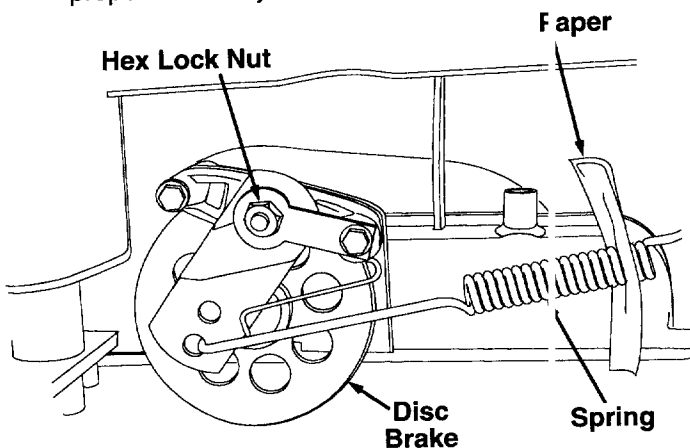

FIGURE 21.
### BRAKE ADJUSTMENT (See figure 21)
2. Working on the right side of the tractor, try inserting a piece of paper through the coils of the brake spring. See figure 21.